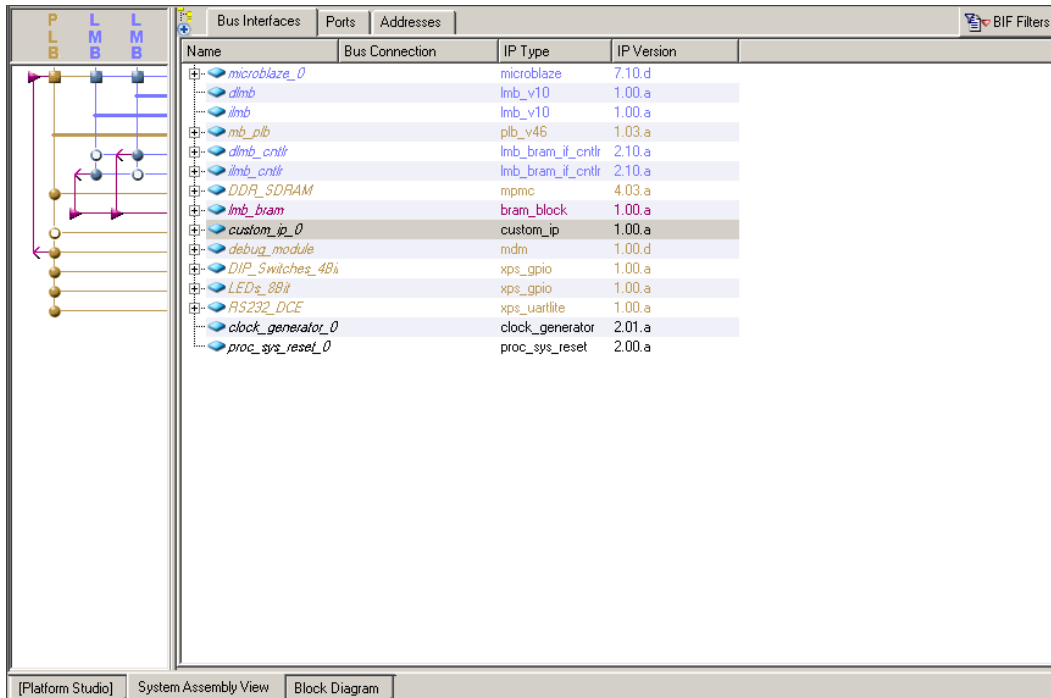

Figure 18: Inserting IP
- The new IP **custom_ip_0** should appear in the assembly view as shown in Figure 18.